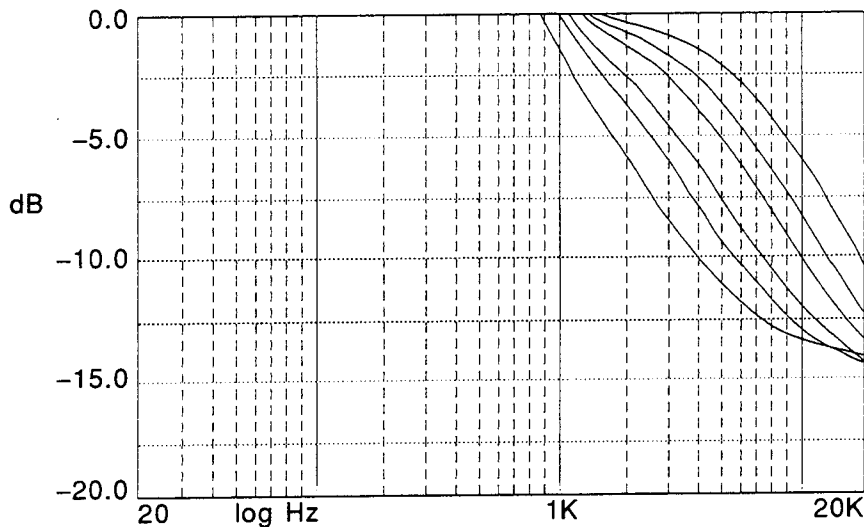

Figure 4-1: Limiting Curves
- N Verify that the limiting action is as shown in Figure 4-1 for each position of the HF LIMITER switch.